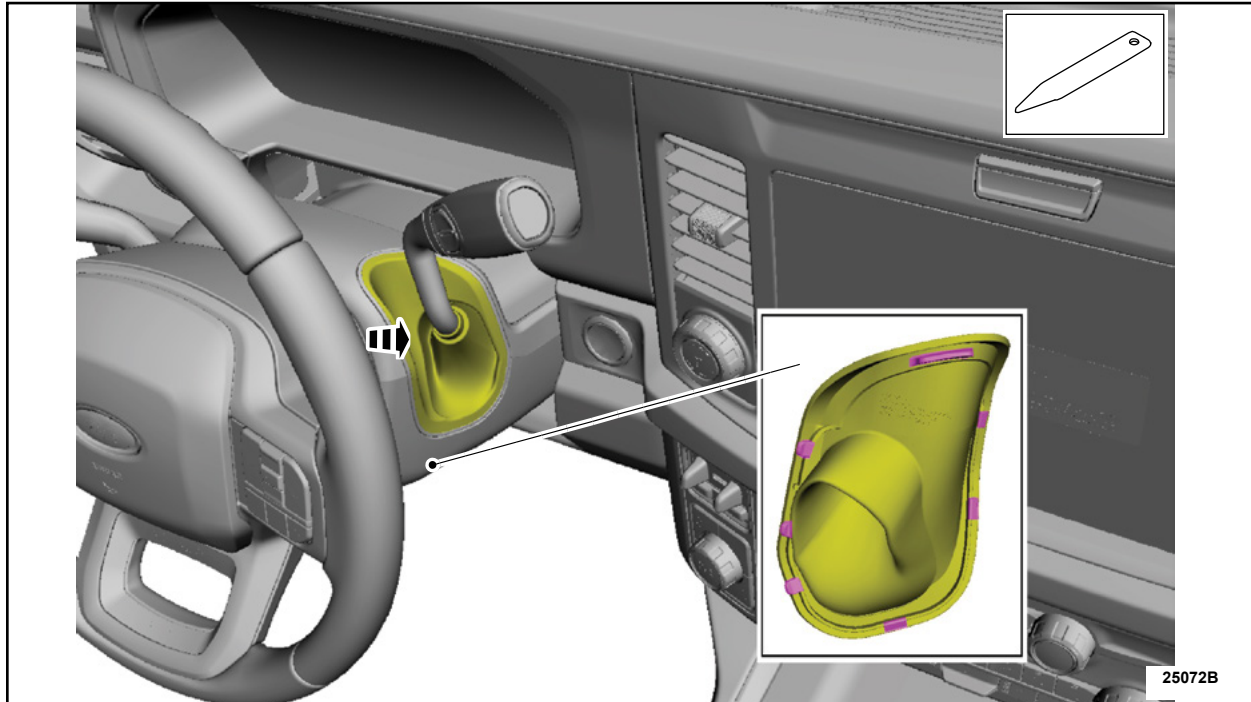

FIGURE 2
2. Release the tabs and position the gear selector boot aside. See Figure 2.